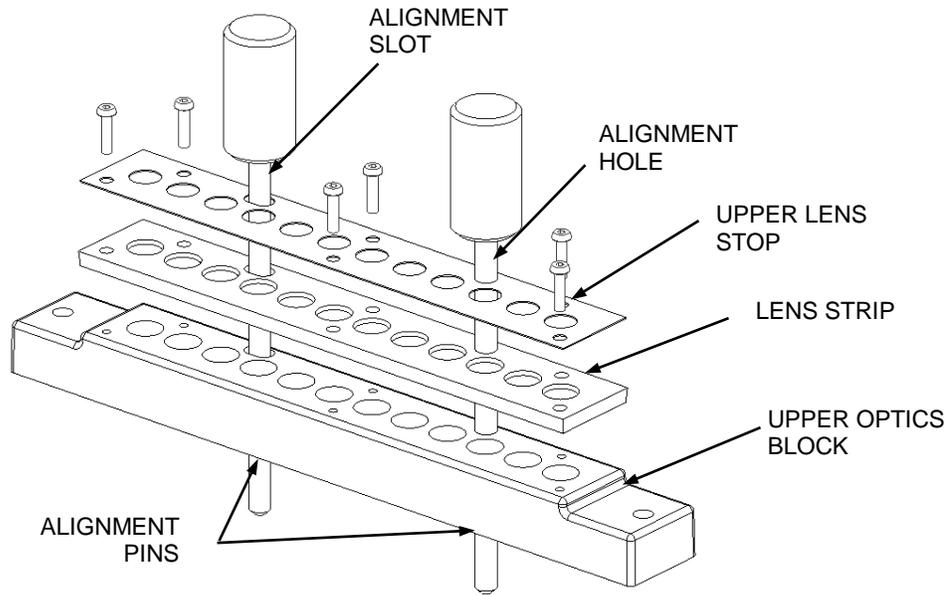

Figure 12-48: Upper Lens block
2. Remove the two screws that attach the upper lens stop and lens strip from the upper lens block (Figure 12-48). The alignment pins are not required for disassembly.